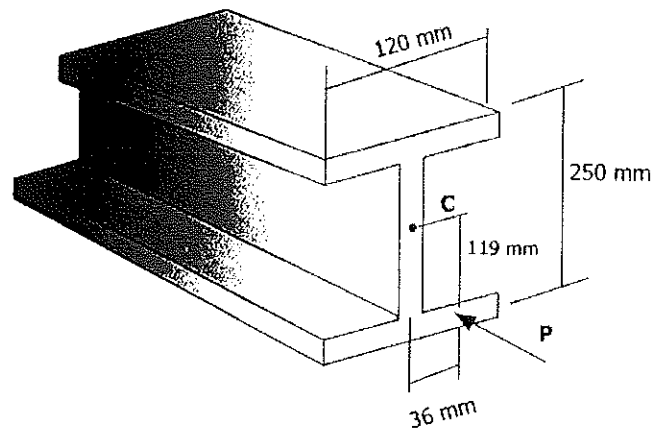

Figure Q5(a)
- Q5 (a) I - section beam is subjected to a force P as shown in Figure Q5(a).